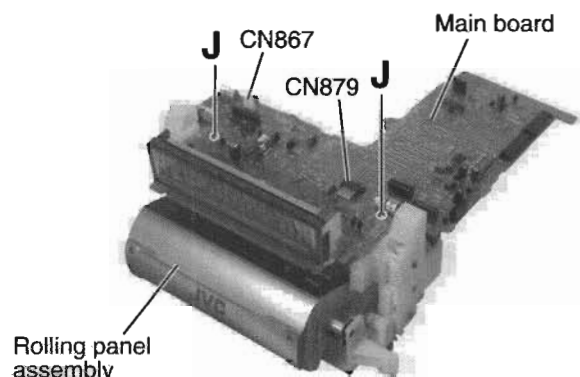

Fig.14
■ Removing the main board (See Fig.14 and 15)